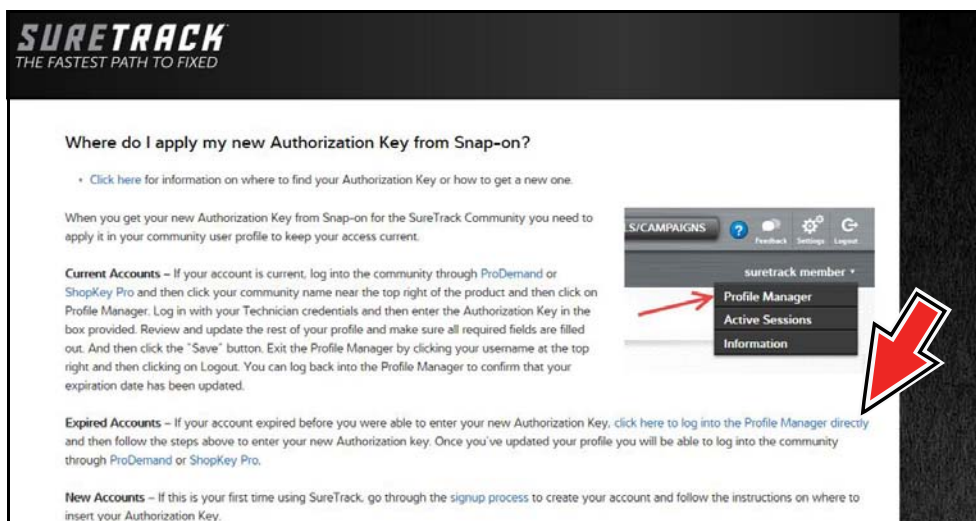

Figure 6-21
3. The SureTrack FAQ webpage opens (Figure 6-21).